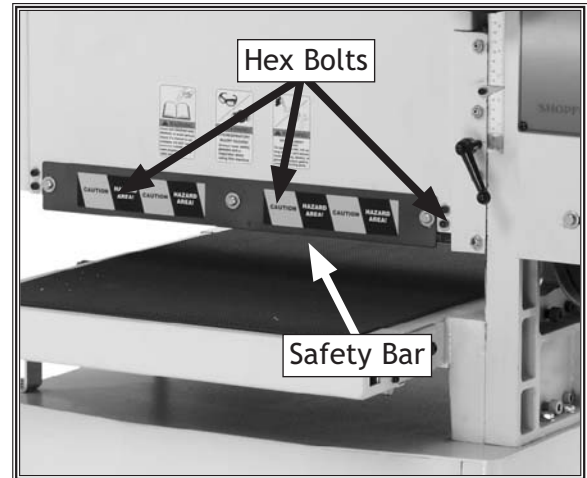

Figure 33. Depth of cut safety bar.
The position of this safety bar (see **Figure 33**) was set by the factory at approximately 0.047" ($\frac{3}{64}$ ") above the lowest point of the sanding drum. For safe operation, make sure that this safety bar remains at this setting.
5. Loosen the three hex bolts securing the safety bar (see **Figure 33**), raise the bar up slightly, then tighten the hex bolts enough to hold it in place.